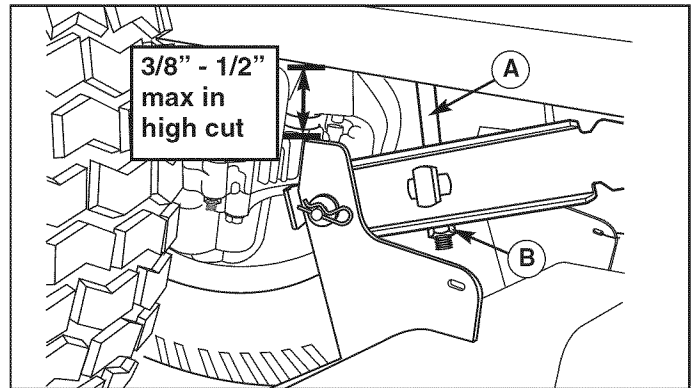

Figure 26. Leveling the Mower Side-to-Side
5. Turn the locknut (B, Figure 26) to raise or lower that side of the mower.
NOTE: The maximum the mower can be adjusted in high cut is 3/8" to 1/2" between the frame and mower up-stop (see Figure 26).